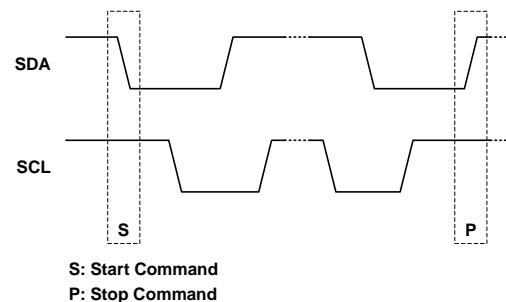

Figure 10: Start and Stop Commands
The start and stop commands are signaled by the master device, which signifies the beginning and the end of the I²C transfer. The start (S) command is defined as the SDA signal transitioning from high to low while the SCL line is high. The stop (P) command is defined as the SDA signal transitioning from low to high while the SCL is high (see Figure 10).